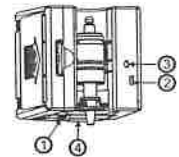

FIGURE 2
2. Close the cover and the LED will flash 3 times indicating the dispenser is ready for use. Place hand(s) underneath the dispenser within 5" of the sensor, the dispenser will dispense approximately 0.4ml of soap into your hand(s). If additional soap is needed, open the cover and put the toggle switch (figure 2) to 2 or 3, the dispenser will work 2 or 3 times. The LED will flash until the dispenser finishes.